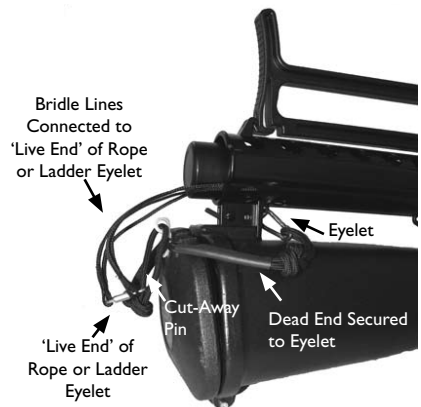

Figure 17g - Climbing Line or SF40 Payload Ready for Deployment
3. Connect the Quick-Connect on the bridle lines to the loop containing the Cut-away Pin. (Fig. 17g)